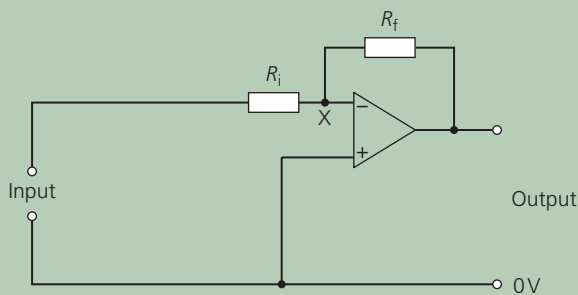

Figure Q1
1. a. Figure Q1 shows an operational amplifier in the inverting configuration.
- Point X is a *virtual earth*. Explain what is meant by this term in the context of the circuit in Figure Q1.